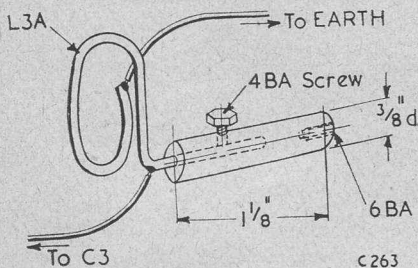

Fig. 5.
- L3A, see Fig. 5
The cure is to increase the efficiency of the receiver smoothing circuits, or to add extra decoupling to the oscillator anode, Fig. 5, using whichever is the simpler course.
Fig. 5. (a) A typical circuit, often used in practice, wherein may lie the cause of "oscillator wobble" (see text). (b) The addition of an extra smoothing circuit for the oscillator anode. The additional capacitor may be an electrolytic component if of good quality. (L is the Feedback Coil and R is approx. 20,000 Ω).
Increase efficiency of receiver smoothing or add decoupling components to oscillator anode feed as shown in Fig. 5.